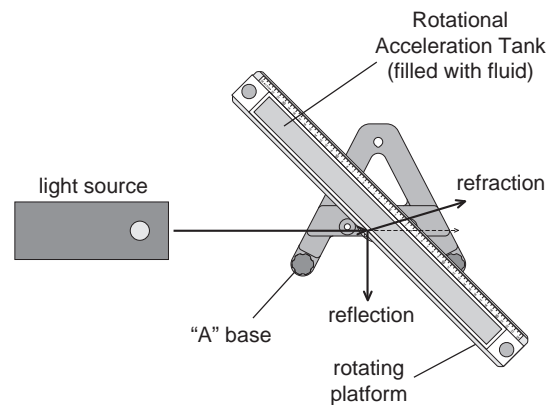

Figure 4: Angle of Refraction/Reflection
- ① Place the tank on the rotating platform, or on a stable desktop and fill the tank with the liquid to be observed.
- ② Place a light source at the desired angle and observe the angle of reflection or refraction. See Figure 4.